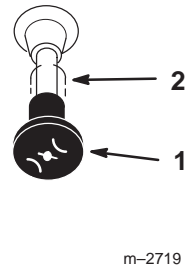

Figure 13
4. Move the choke control to *on* position before starting a cold engine (Fig. 13).
7. After the engine starts, move the choke to *off* (Fig. 13). If the engine stalls or hesitates, move the choke back to *on* for a few seconds. Then move the throttle lever to desired setting. Repeat this as required.